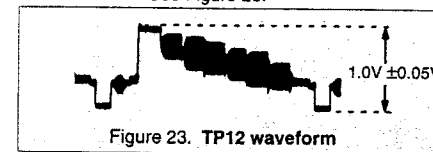

Figure 23. TP12 waveform
1. In the Serviceman Mode for making electronic adjustments, select DAC Video Adjustment Level (B5) and adjust for 1.0V  $\pm$  0.05V from sync tip to white level. See Figure 23.